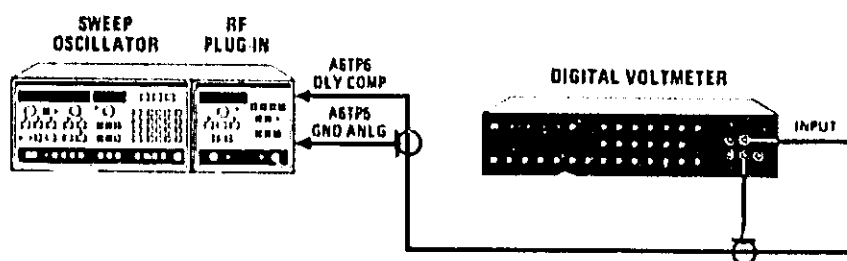

Figure 5-12. Delay Compensation Offset Adjustment Test Setup
1. Connect the equipment as shown in Figure 5-12 with the DVM connected to A6TP6 (DELAY COMP) and common to A6TP5 (GND ANLG).